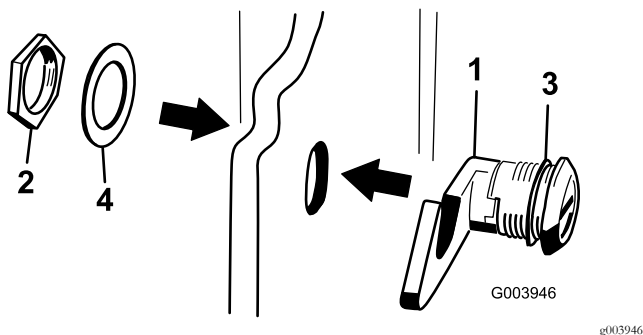

Figure 6
3. Remove the nut from the hood-latch assembly (Figure 6).
4. Outside the hood, insert the hook end of the latch through the hole in the hood and make sure that the rubber-sealing washer remains to the outer side of the hood (Figure 6).